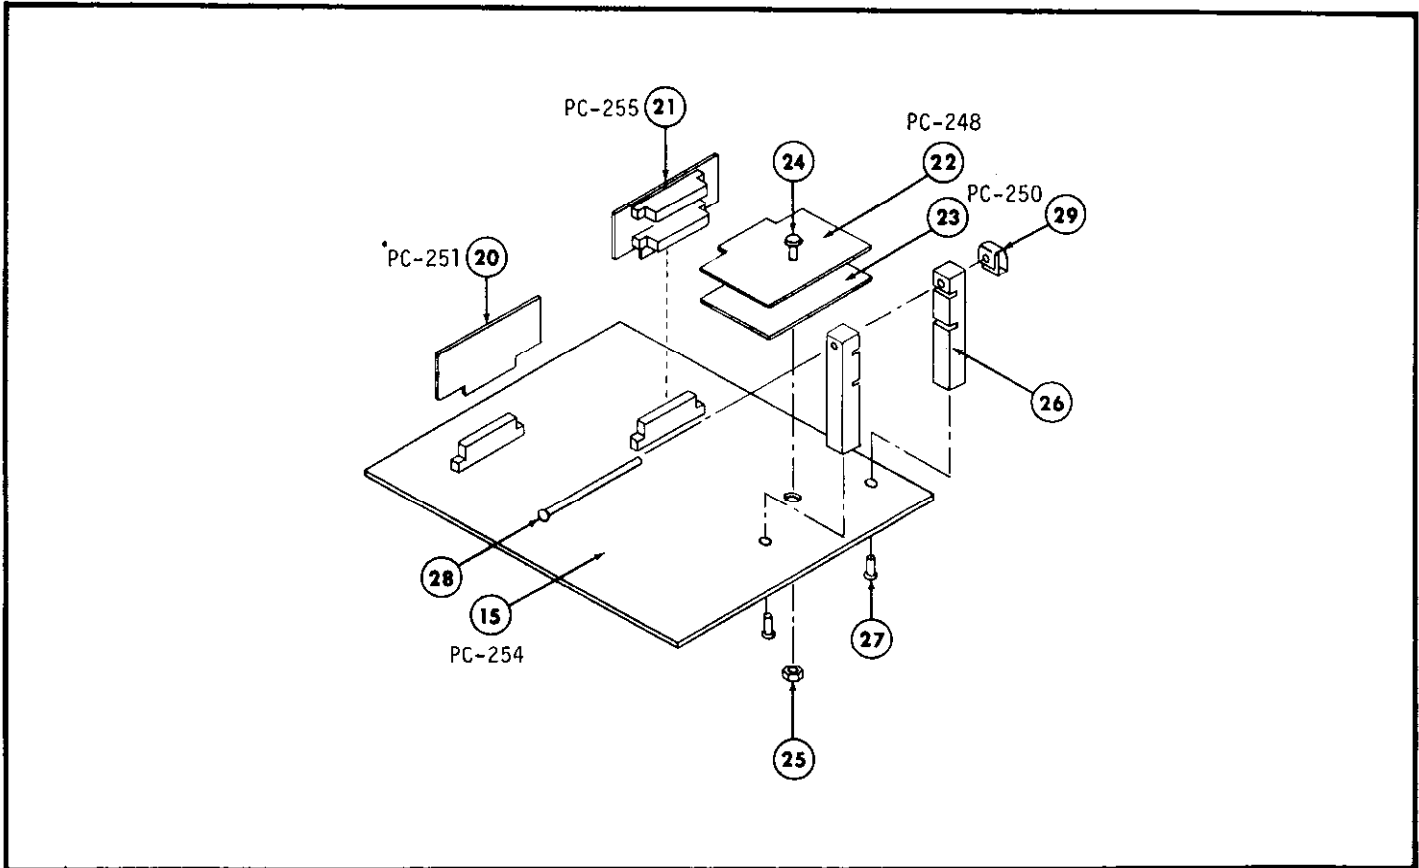
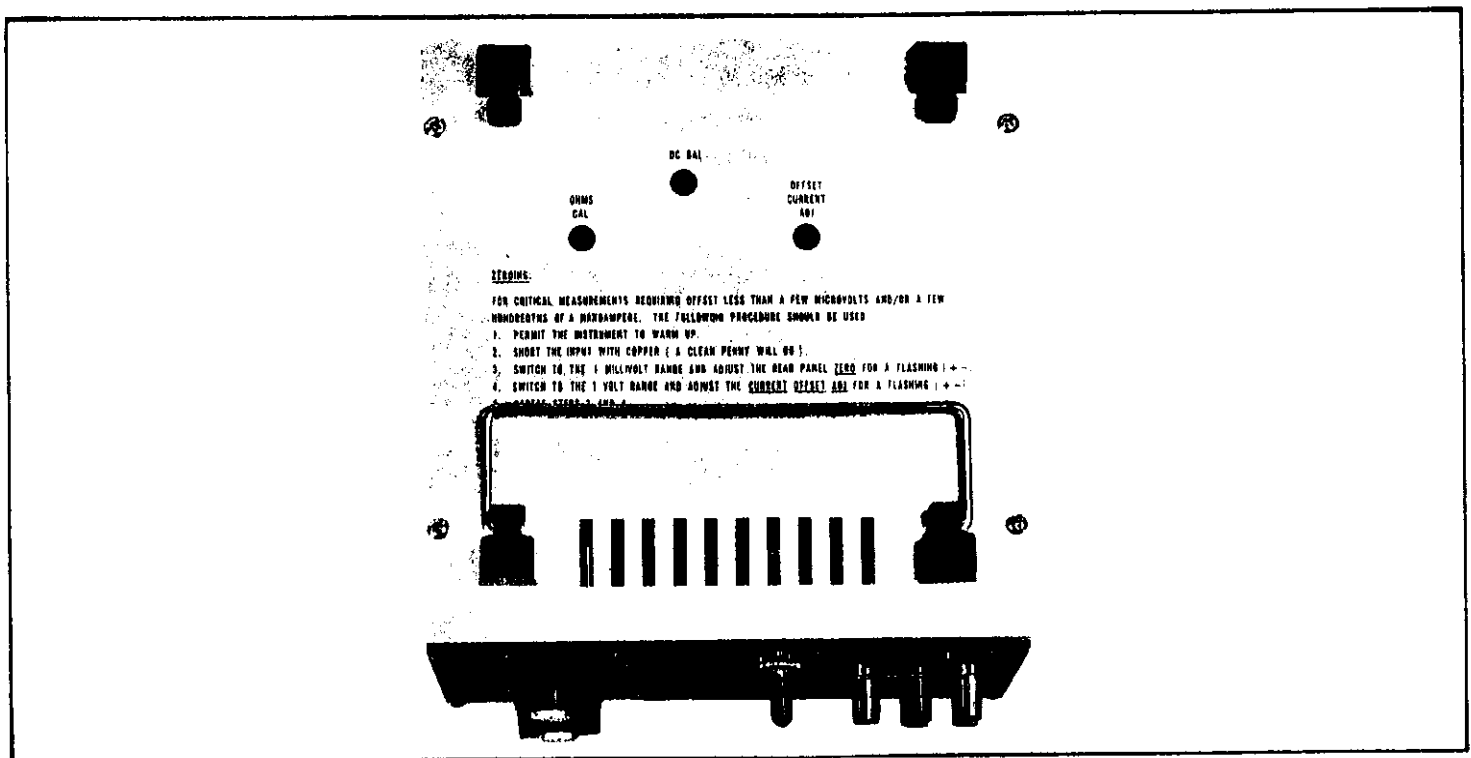

FIGURE 16. PC Board Locations.
FIGURE 18. Chassis, Bottom View.
c. Printed Circuit Board Installation. The location of all circuit boards is shown in Figure 16. To gain access to circuit boards PC-248, PC-250, and PC-255 the following procedure should be used.
1. Remove the two Phillips head screws from the underside of PC-254 as shown in Figure 16.
3. Remove the long slotted screw and fastener as shown in Figure 16.
a. Offset Current Adjust (R733). This control is a screw driver adjustment accessible from the bottom cover as shown in Figure 18.
b. Ohms Cal Adjust (R738). This control is a screw driver adjustment accessible from the bottom cover as shown in Figure 18.
c. DC Balance Adjust (R722). This control is an adjustment accessible from the bottom cover as shown in Figure 18. Caution! Use an insulated screw driver to avoid contacting the chassis.
2. Power Supply Checkout. All the power supply voltages can be measured at test points on printed circuit board PC-254 as shown in Figure 18.
1. Power Supply. The +15V supply should be adjusted for +15.00V dc $\pm 0.050V$ using potentiometer R209 on PC-254 as shown in Figure 18. The -15V and +3.6V supplies cannot be adjusted since the +15V supply is used as a reference voltage.
2. Clock Frequency. Measure the clock frequency at the "CLOCK" test point on PC-254 as shown in Figure 16. The frequency should be adjusted for a nominal 10kHz, ± 20 Hz using potentiometer R605 on PC-254 as shown in Figure 18.
3. Zero Adjust. Temporarily disconnect front panel zero control R1215 by removing connector J1209 (located on PC-348). Place a shorting wire across the Input Terminals (red and black). Connect voltmeter (A) to the analog OUTPUT (J103). Adjust the rear-panel ZERO Control (R505) for zero on the 1 mV range.
5. DC Balance. With voltmeter (A) connected to the OUTPUT adjust the OFFSET CURRENT ADJ. Control (R733) for zero on the 1V range. The OUTPUT should be adjusted within ± 1 millivolt on the 1mV range and within ± 0.1 millivolt on the 1V range. Repeat the adjustments of R505 and R733 until the OUTPUT is within tolerance on both the 1mV and 1V ranges simultaneously. NOTE